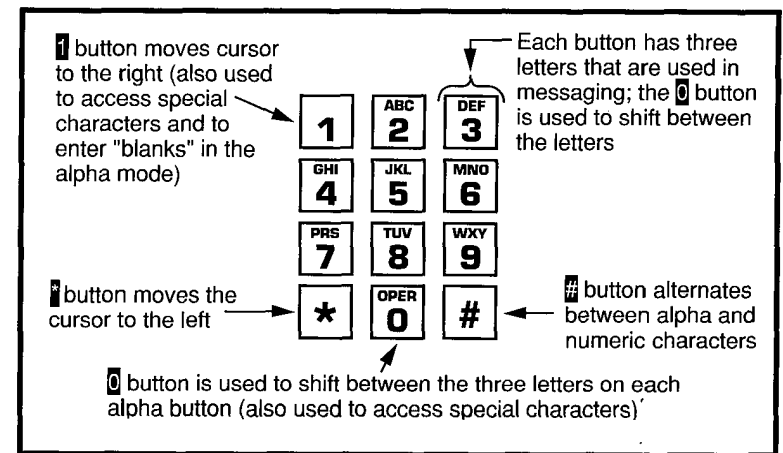

FIGURE 1—DIALPAD INFORMATION
- 1) Press the **#** button to access alpha characters. Refer to Figure 1 for an explanation of the dialpad buttons.